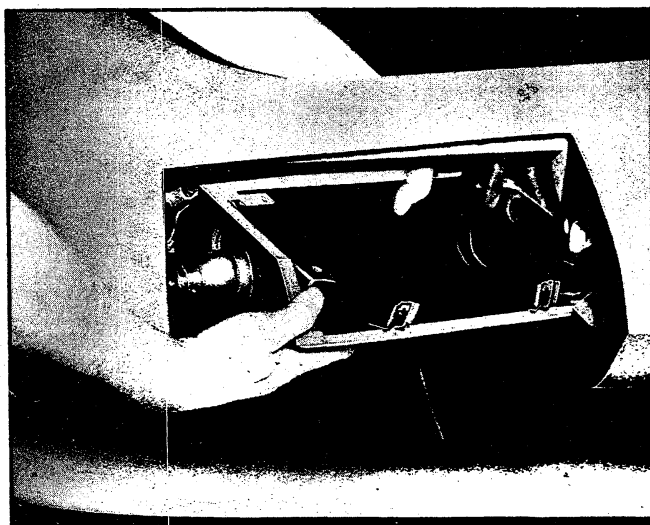

Fig. 14 - Headlamp Panel Removal (Corvette)
8. Remove panel from its location by alternately disengaging pivots from their retaining slots and withdrawing unit forward through opening in body (fig. 14).